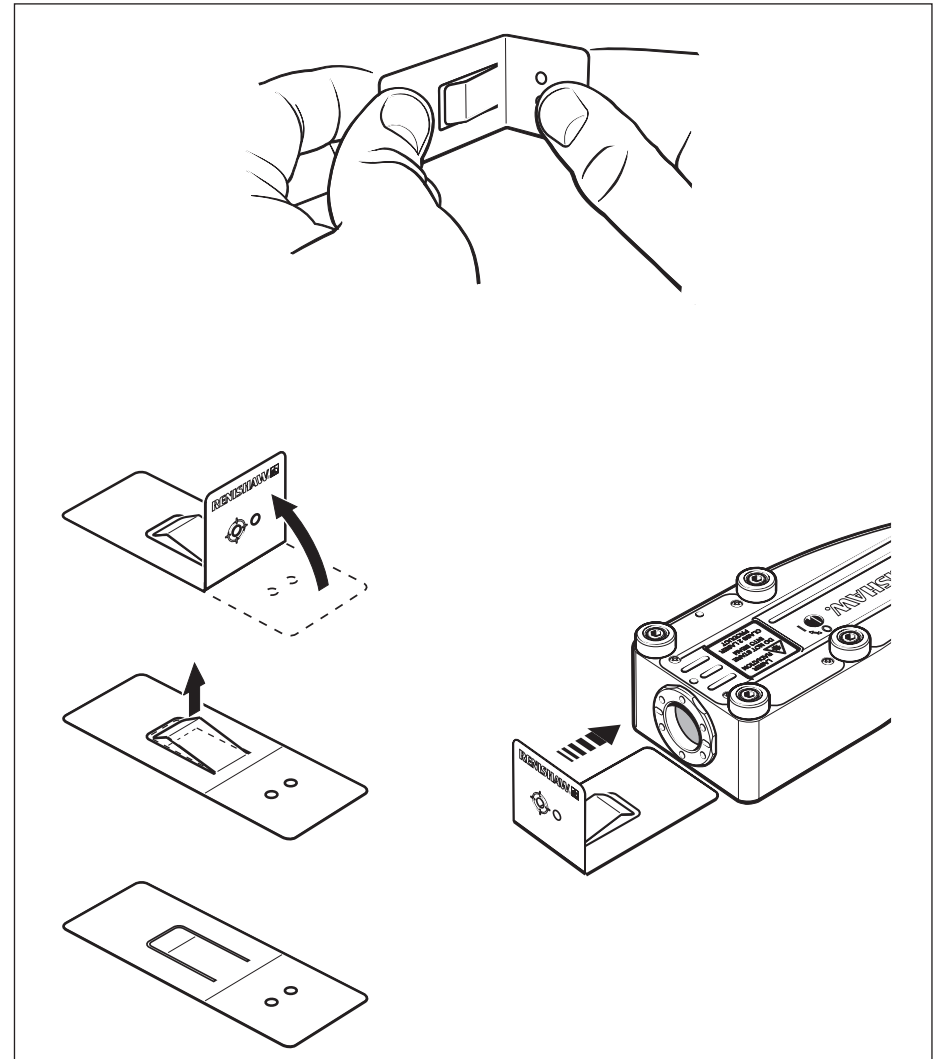

Figure 38 Metal target
3. Using the metal target provided (see Figure 38 on page 50), align the beam into the target aperture by adjusting only the pitch and yaw of the detector head.